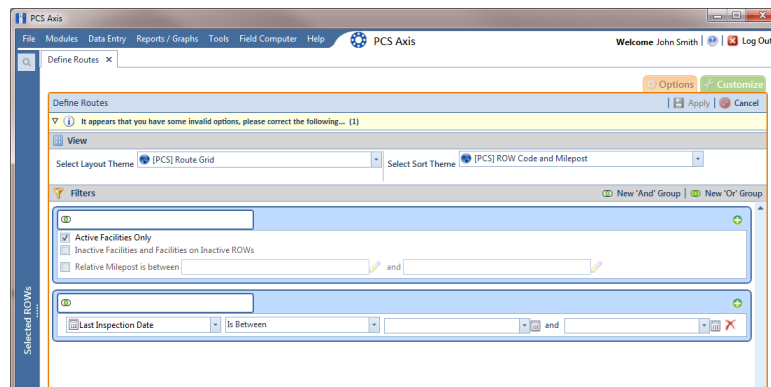

Figure 8-4. New 'And' Filter Group
- 7** If you want to add a new AND filter group, complete the following steps. With an AND filter group, PCS Axis includes a subset of records that meet *all* filter conditions defined for the filter group. Records are filtered in the grid and in the route (Figure 8-4).